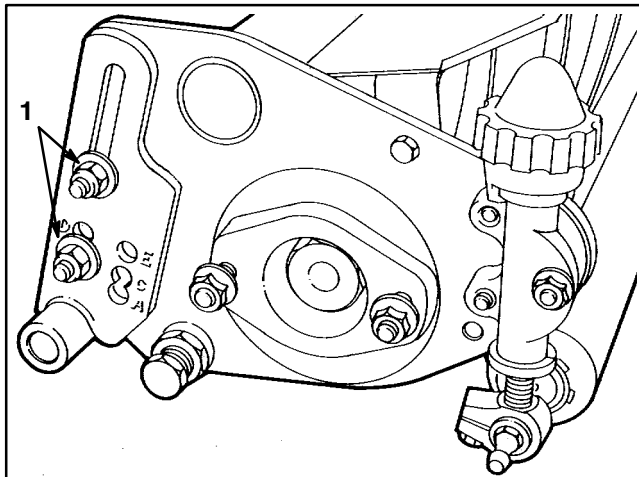

Figure 4
4. After positioning into correct height-of-cut hole position, install flatwashers and nuts and securely tighten the right hand rear roller bracket capscrews (Fig. 4).